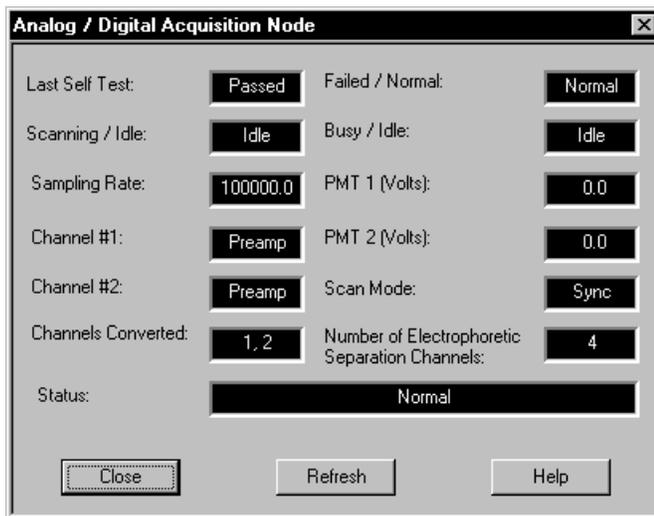

Figure 7-9. ADAQ Control Node.
**ADAQ Control Node**—This icon brings up the Analog Digital Acquisition Node window (figure 7-9), which displays the status of the ADAQ board.